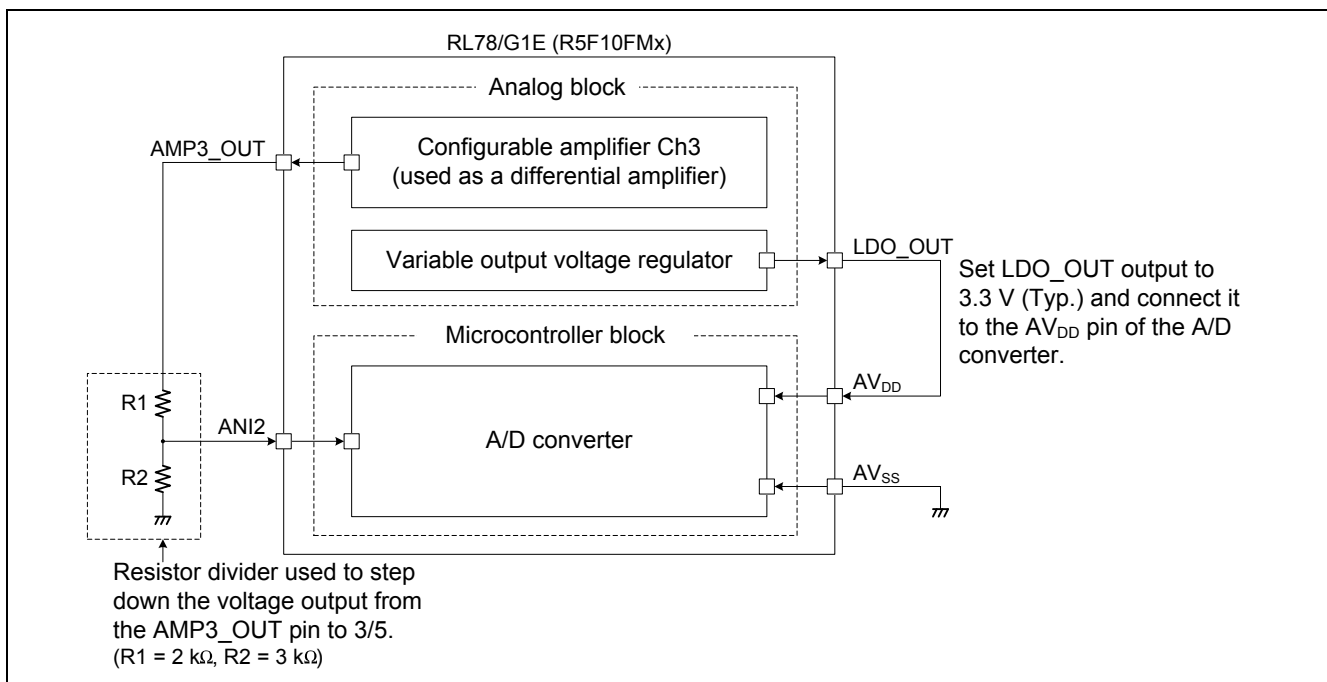

Figure 5.6 Connection Between Configurable Amplifier Ch3 (Used As a Differential Amplifier) and A/D Converter
Figure 5.6 shows the connection between the configurable amplifier Ch3 (used as a differential amplifier) and the A/D converter incorporated in the RL78/G1E (R5F10FMx).
Because the analog voltage output from the AMP3_OUT pin is divided by using the resistor divider and then input to the ANI2 pin, the AMP3_OUT pin voltage (V) is expressed as shown in the formula below (see **Figure 5.6**):